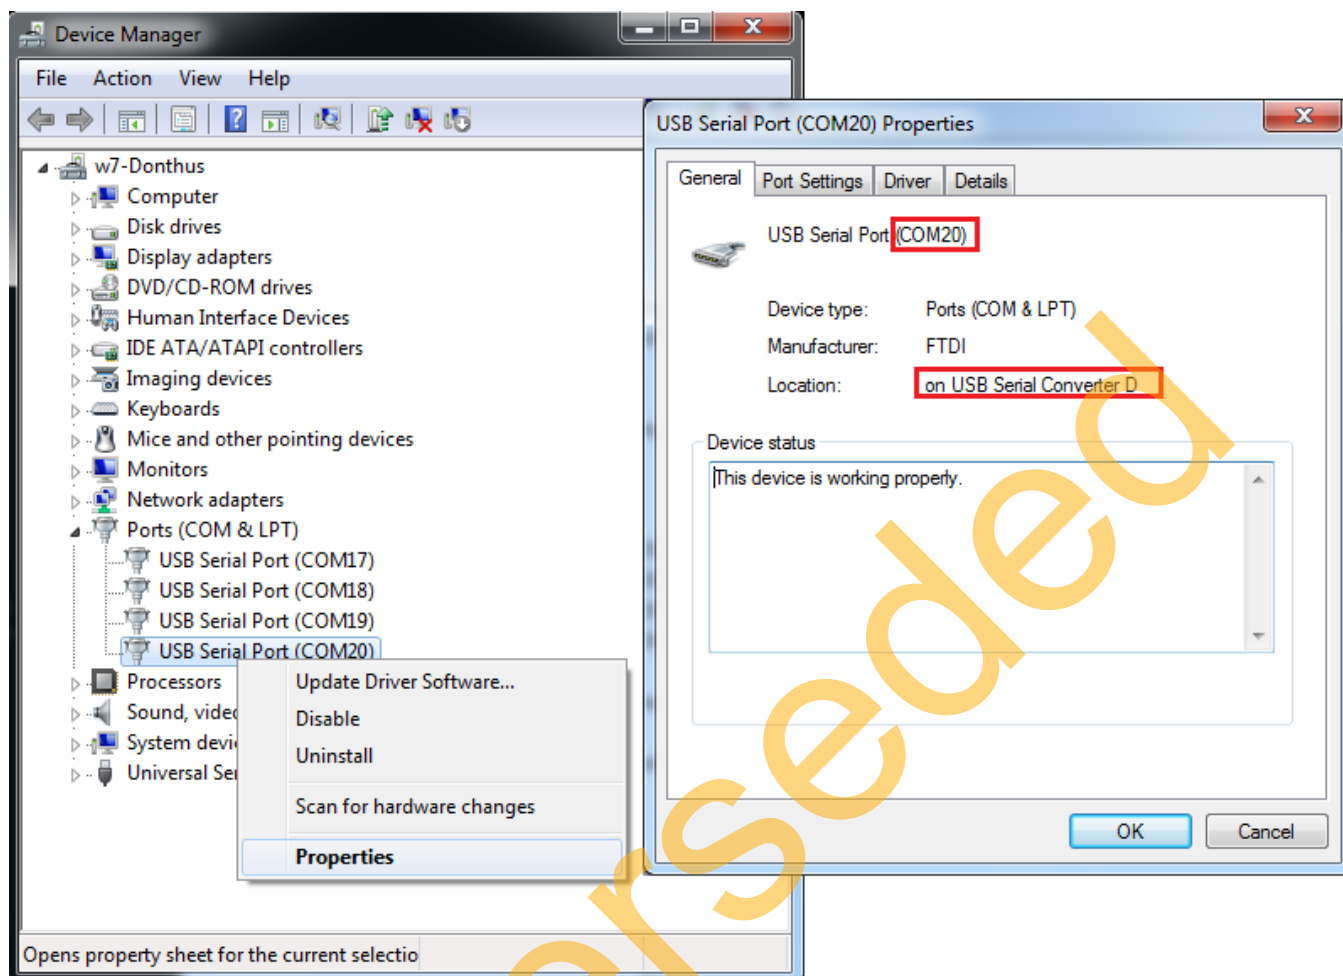

Figure 3. USB to UART Bridge Drivers
2. Connect one end of the USB mini-B cable to the J24 connector provided in the SmartFusion2 Development Kit. Connect the other end of the USB cable to the host PC. Make sure that the USB to UART Bridge drivers are automatically detected (can be verified in the Device Manager), as shown in Figure 3.
Note: Copy the COM port number for serial port configuration. Ensure that the COM port **Location** is specified as 'on USB Serial Converter D' as shown in Figure 3.